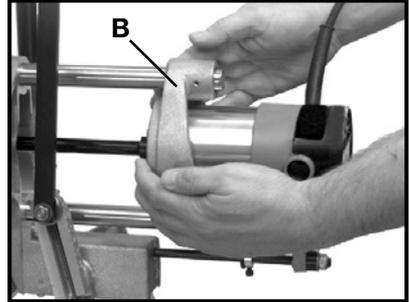

Fig. 9
6. Turn motor switch **ON** and rotate crank (E) until collar (F) hits feed housing, stopping depth of cut and completing mortise.
8. Move feed lever (A) to horizontal position to disengage feed mechanism.
9. Grasp motor carriage (B), Fig. 9, with both hands and pull towards you until bit is clear of cut mortise. Remove mortiser from 2" × 6" (50.8 × 152.4 mm).